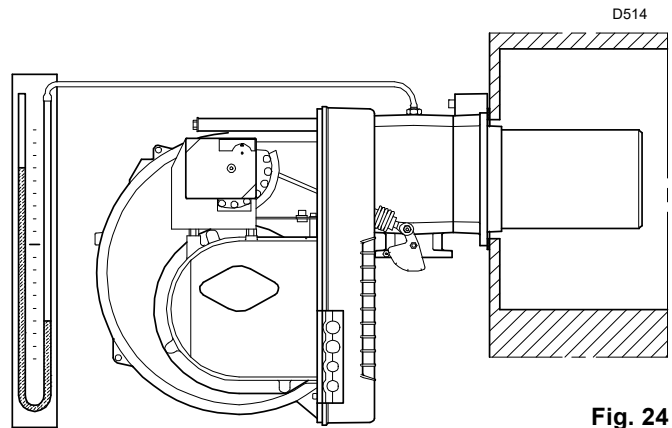

Fig. 24
- Fit a U-type pressure gauge (Fig. 24) to the gas pressure test point on the pipe coupling.
Once the above steps are completed, the burner should ignite. If the motor starts but the flame does not appear and the control box goes into lockout, reset and wait for a new ignition attempt. If ignition does not occur, it is possible that gas is not reaching the combustion head within the safety time period of 3 seconds. Therefore, it is necessary to increase gas ignition delivery. The arrival of gas to the sleeve is indicated by the U-type pressure gauge (Fig. 24 on page 24).
A rough indication can be obtained from tables on page 5, just read the gas pressure on the U-shaped pressure gauge, see Fig. 24 on page 24, and follow the instructions given in page 20.